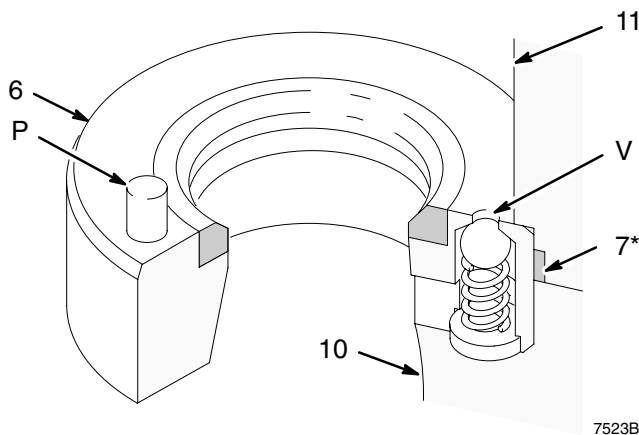

Fig. 14
4. Install the relief valve intake seat (6) in the left side of the lower housing (11), as viewed in Fig. 15 (the arrow on label 35 points to the correct location). The pin (P) on the seat must point up into the housing. The pin limits the positioning of the seat, ensuring that the vent hole (V) is not blocked by part of the housing. Refer to Fig. 14.
5. Install the intake seat without a relief valve (34) in the right side of the lower housing (11).
- Relief valve intake seat must be installed on the left side of the housing (11), as shown. Orient the seat as shown in Fig. 14.
- Intake seat without relief valve. **Do not install the relief valve seat (6) on this side of the housing (11).**
- Chamfered side must face ball (5).